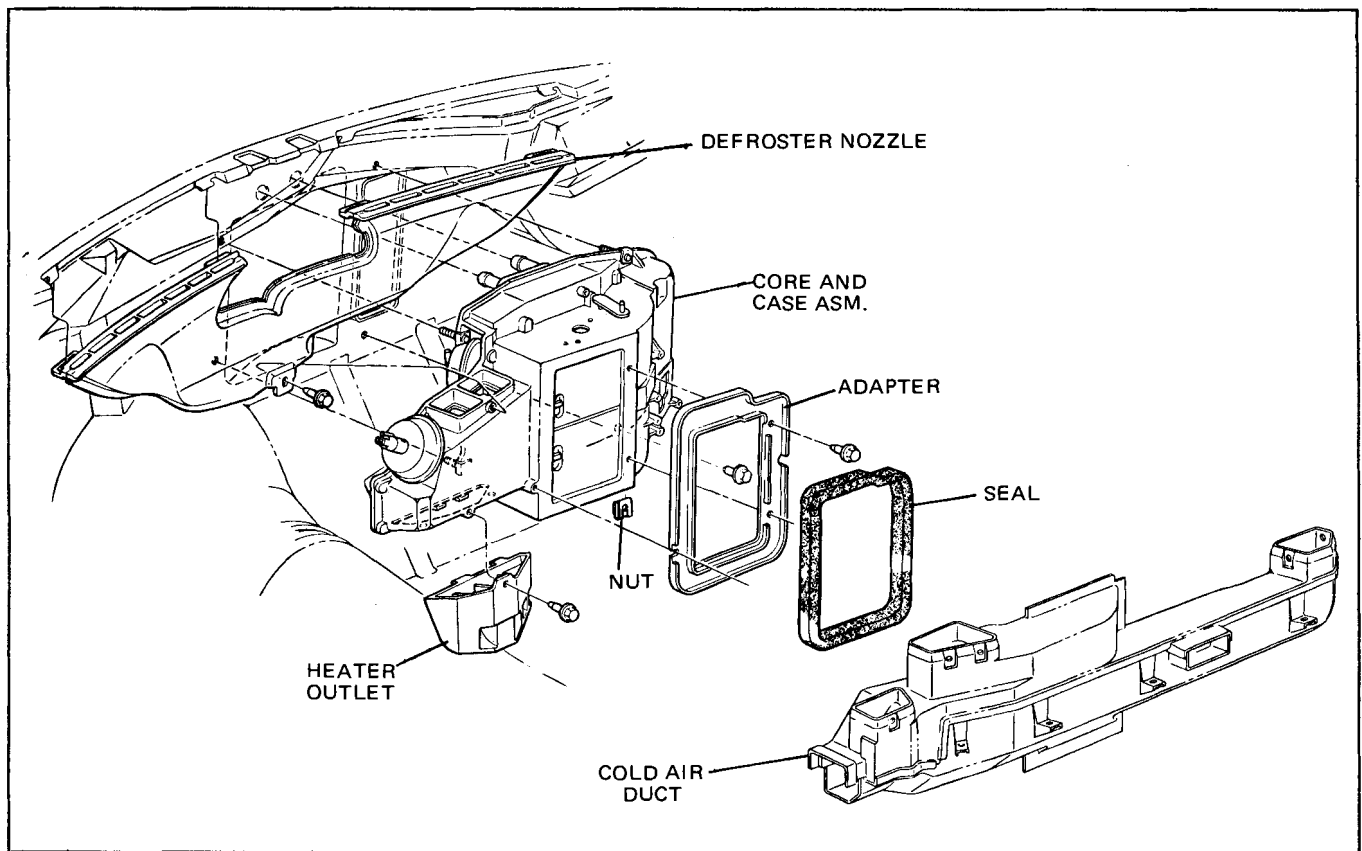

Fig. 1A-119 B Series A/C Heater Core and Case Installation
12. To replace core, reverse removal procedure. If case is to be replaced, transfer parts (cam, diaphragms, etc.) to new case. Refer to Fig. 1A-119 for installation of core and case assembly.